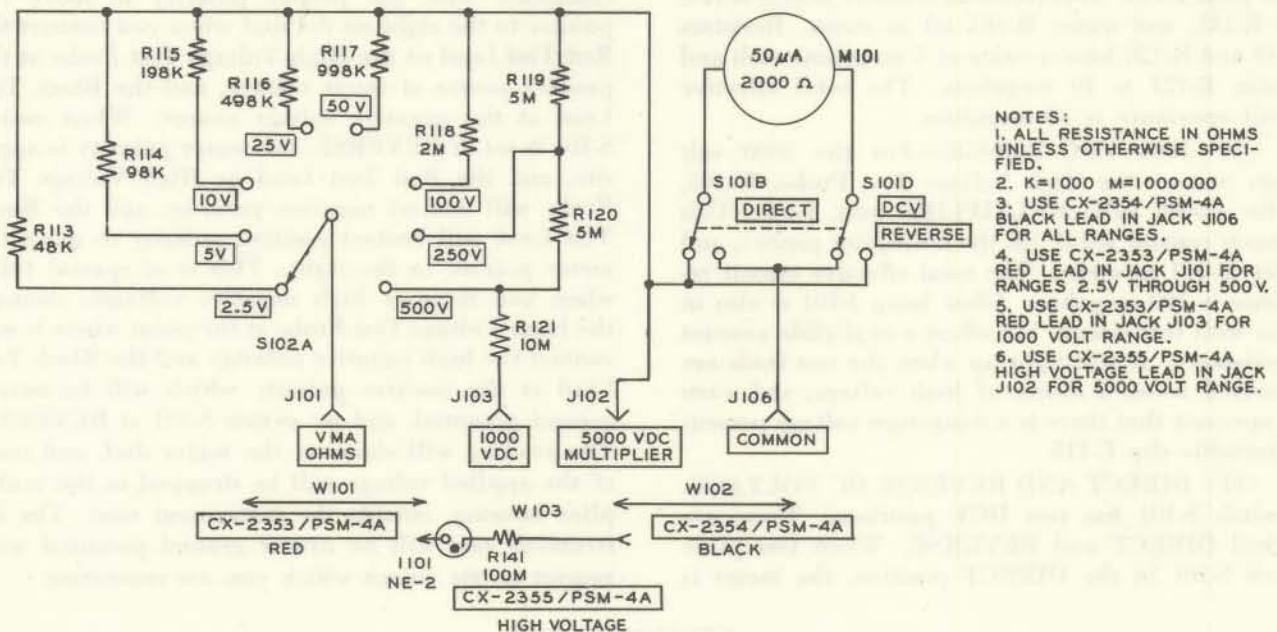

Figure 2-5. DC Voltmeter Schematic Diagram.
a. DC VOLTMETER CIRCUIT. (See figures 2-5 and 6-9).—The portion of the circuits which you use for measuring DC voltages with Multimeter AN/PSM-4A are shown in figure 2-5. The overall schematic diagram, of which this is a part, is shown in figure 6-9. The DC voltage ranges each have 20,000 ohms-per-volt total circuit resistance, so when you connect the test leads across the amount of voltage which is equal to the range value, there will be a 50 microampere current flowing through the meter movement. This will deflect the pointer to full scale, and indicate the voltage present. If you connect the test leads across some fraction of the full scale voltage of any range, there will be a proportional fraction of 50 microamperes flowing through the meter movement, and the pointer will be deflected a proportional fraction of the distance across the dial.
(1) 2.5 VDC RANGE.—Referring to figure 2-5, function switch S-101 is shown in the DCV DIRECT position, and range switch S-102 is shown in the 2.5V position. Resistor R-113, 48K, is in series with the meter movement resistance, M-101, 2000 ohms. The total circuit resistance between jacks J-101 and J-106 is 50,000 ohms. When you connect the test leads, plugged into these jacks, across 2.5 volts DC, there will be 50 microamperes of current flowing through meter M-101. This will cause full scale deflection on the meter and indicate 2.5 volts DC on the dial.
(2) 5 VDC RANGE.—When you place range switch S-102 at 5V, you connect resistor R-114, 98K, in series with meter M-101, 2000 ohms. The total circuit resistance is 100,000 ohms. Five volts applied